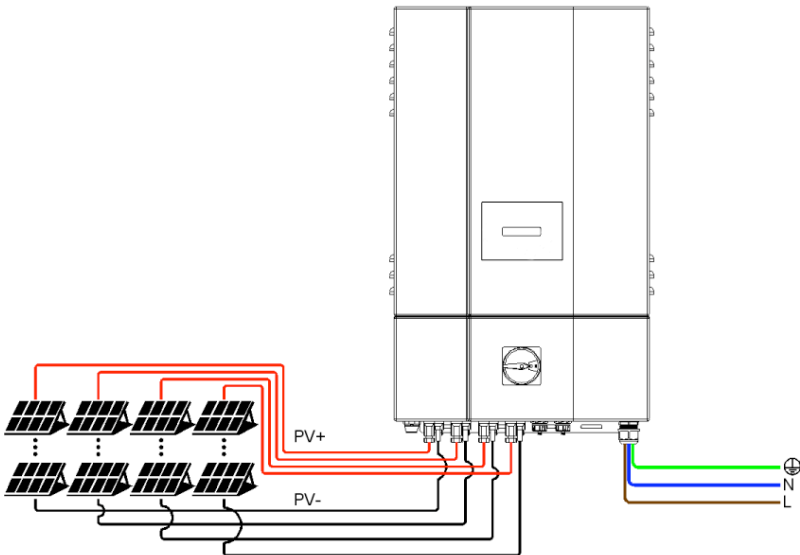

Fig 2.3.2.1 PV- terminal connection
Up to four (4) (three (3) for ISMG128) PV strings (4 pairs) can be connected to the ISMG1 inverter as shown in the figure 2.3.2.1. The PV strings will be connected in parallel inside the wiring box.